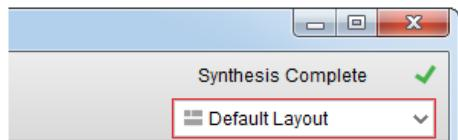

Figure 6.8: Default Layout option
5. Make sure that **Default Layout** option is selected from the view layout pull-down menu in the main toolbar, see Figure 6.8.